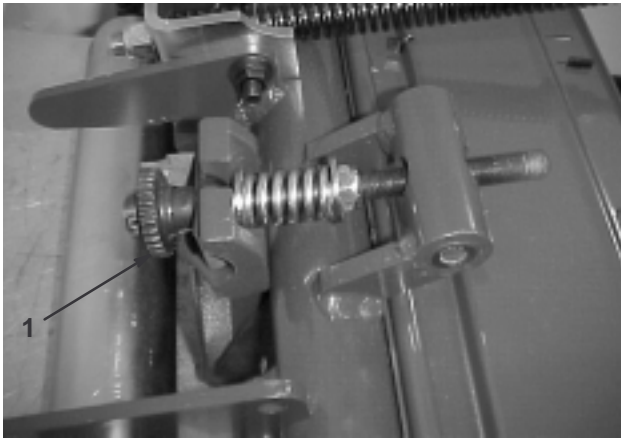

Figure 16
1. Loosen reel to bedknife contact by turning the bedknife adjusting knob (Fig. 16) counter-clockwise until no contact exists.